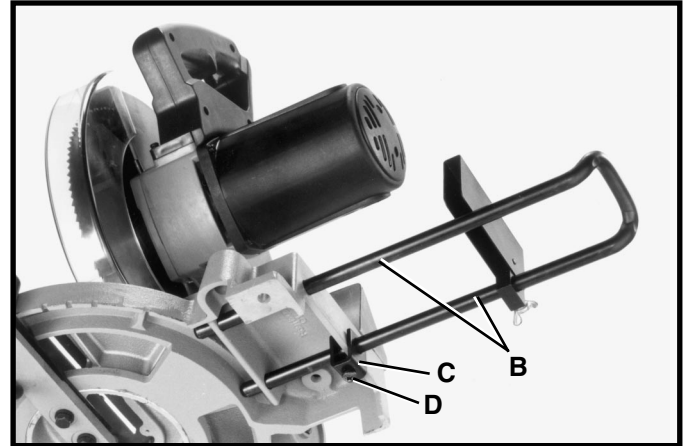

Fig. 6
2. Insert ends of table extension (B) Fig. 6, into the four holes on end of saw base and into the two holes of lock bracket (C), as shown. Tighten screw (D) to hold table extension in place.